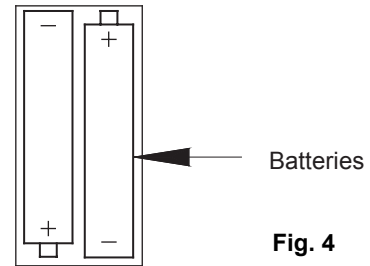

Fig. 4
2. Install two AAA batteries into the remote control (see **Fig. 4**)